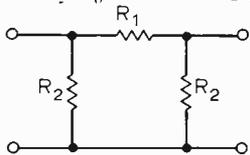

Fig. 1. Single section of attenuator.
The basis of an attenuator is the section (which is connected between adjacent switch contacts). There are two types, the  $\pi$  and the T. Here only the  $\pi$  type will be treated, but any  $\pi$  section can be converted into a T section by applying the star-delta theorem to its elements. One  $\pi$ -type section is shown in Fig. 1. It is designed so that the resistance measured between the input (output) terminals is  $R_0$  when the output (input) terminals are connected to a resistance  $R_0$ . When this is done
When an attenuator section such as that of Fig. 1 has values calculated for a desired attenuation  $20 \log_{10} x$  with a termination  $R_0$ , but is used instead with a termination  $Z_0$ , which is not necessarily equal to  $R_0$ , then the impedance at the other end is, from (1),